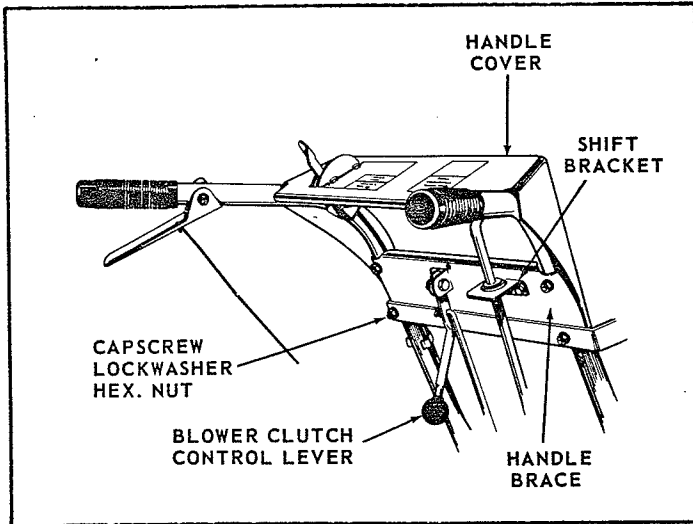
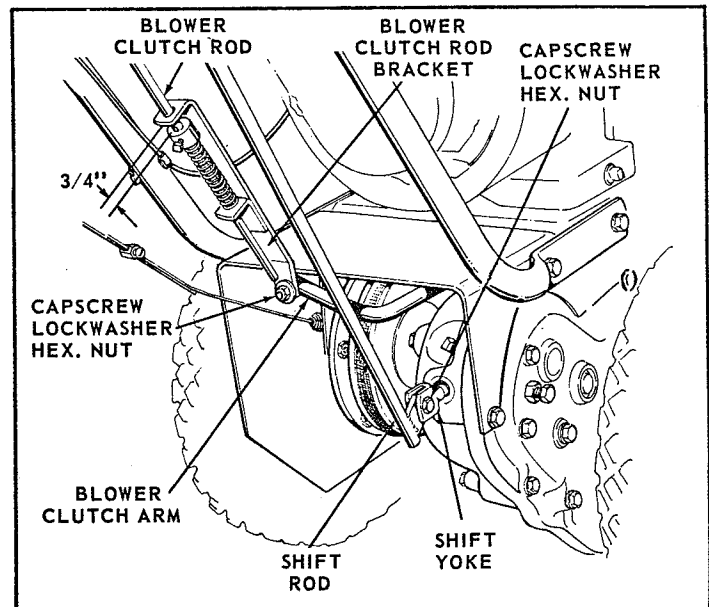

FIGURE 3
FIGURE 5
4. Assemble the Shift Rod Assembly to the handle cover using (two) 1/4" x 1/2" capscrews and 1/4" lockwashers. Secure with 1/4" nuts. Mount the handle cover to handles. Then attach the spout adjusting rod support to bottom holes and secure with 1/4" lockwashers and 1/4" nuts. See Fig. 3.
8. Attach the clutch rod assembly to the clutch auger handle using the 3/32" x 3/4" cotter pin. Attach the lower end of the clutch rod assembly to the clutch auger rod assembly using the 1/4" x 1" hardened capscrew and the 1/4" locknut. Tighten until there is no side play but that rod is free to pivot. See Fig. 5. Attach Knob. See Fig. 3.
9. Remove the back cover by removing the (three) self tapping screws. Insert the wire extension thru the spring on the pivot assembly. See Fig. 5. Install wire extension thru upper left corner of back cover. Replace back cover. Insert spring extension thru bottom set of holes in clutch grip.
12. Position discharge spout directly forward. Position control tube so that the cord clamp faces away from the side of the spout. Place the tube so it rests on the gas tank. Provide one (1) coil on top and one (1) coil on bottom of the tube. Position the free ends of the cord around the spout and clamp securely into position after removing all slack from the cord. The end of the cord closest to operator passes under the tube, the end away from operator passes over the top of tube. Position the control tube so that it fits against the outside of the spout adjusting rod support and fasten using the rod guide with liner and one 5/16" x 18 x 1-1/2" long hex capscrew and 5/16"-18 locknut.
Belt Tension for the Rotor Drive is regulated by the position of the set collar on the Rotor Clutch Rod. Normally a clearance of 3/4" between the set collar and top bracket will properly tension this belt. Check this adjustment when the rotor clutch is engaged. Refer to Fig. 5.